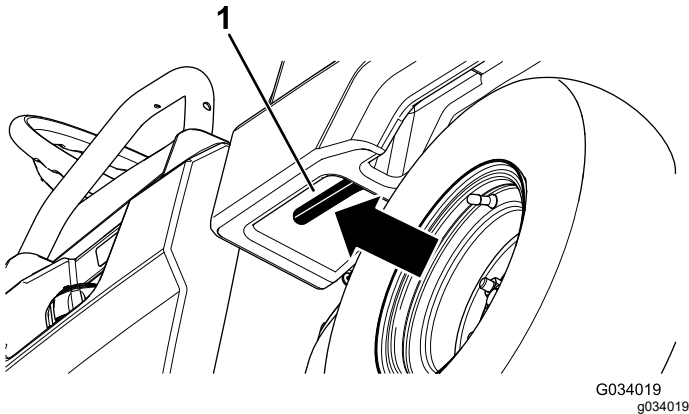

Figure 10
2. Pull on the lever on the left, inside of the cargo bed toward you and lift the cargo bed up (Figure 10).